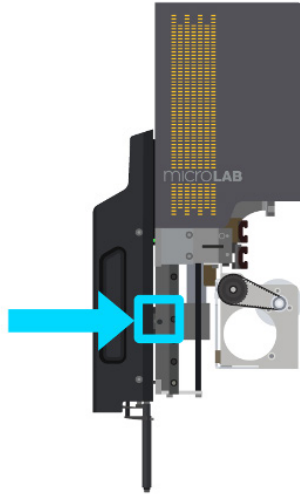

Figure 6–14: Locating the 8 MPH replacement screw
- a. **Loosen the screw indicated in Figure 6–14 by a half-turn** using the 3 mm hex wrench included with the Prep.